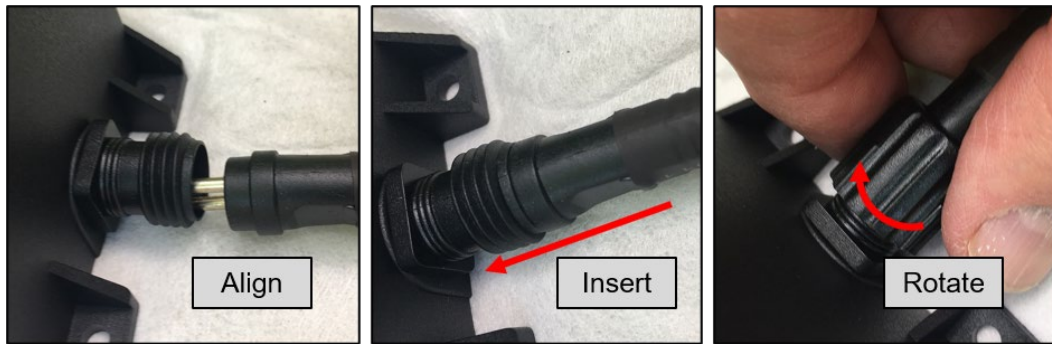

Figure 12 Connect Power Supply
- a. Align the grill plug with the power supply holes (Figure 12 left)
- b. Insert the plug until it is fully seated (Figure 12 center)